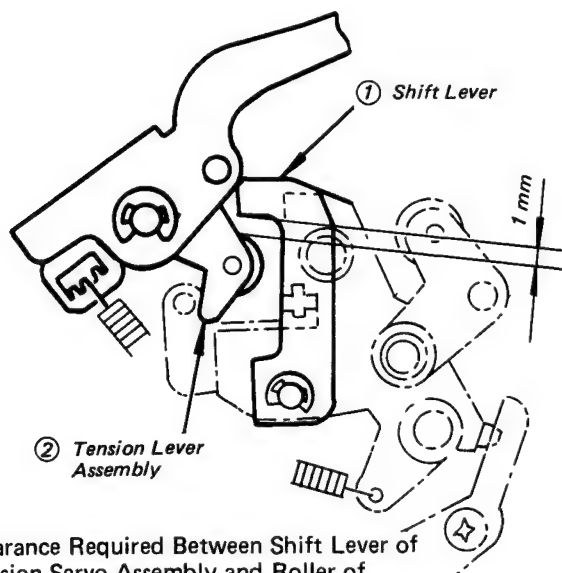

Fig. 5-70 Clearance Required Between Shift Lever of Tension Servo Assembly and Roller of Tension Lever Assembly
6. Further, make certain that the clearance between the shift lever ① of the tension servo assembly and the roller of the tension lever assembly ② is around 1 mm (see Fig. 5-70).
### 25-3. Adjusting stroke of the Cue/Review Solenoid (Figs. 5-70, 5-80)